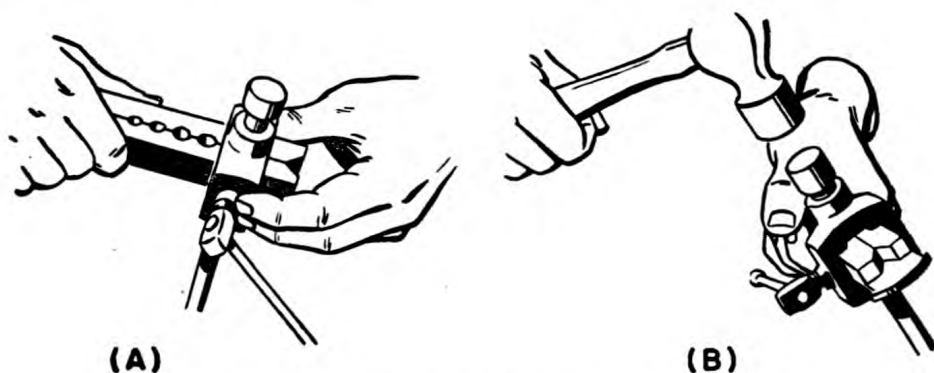

Figure 215.—Using a combination flaring tool.
and clamp it tightly in place with the adjusting screw as in (A) of figure 215.